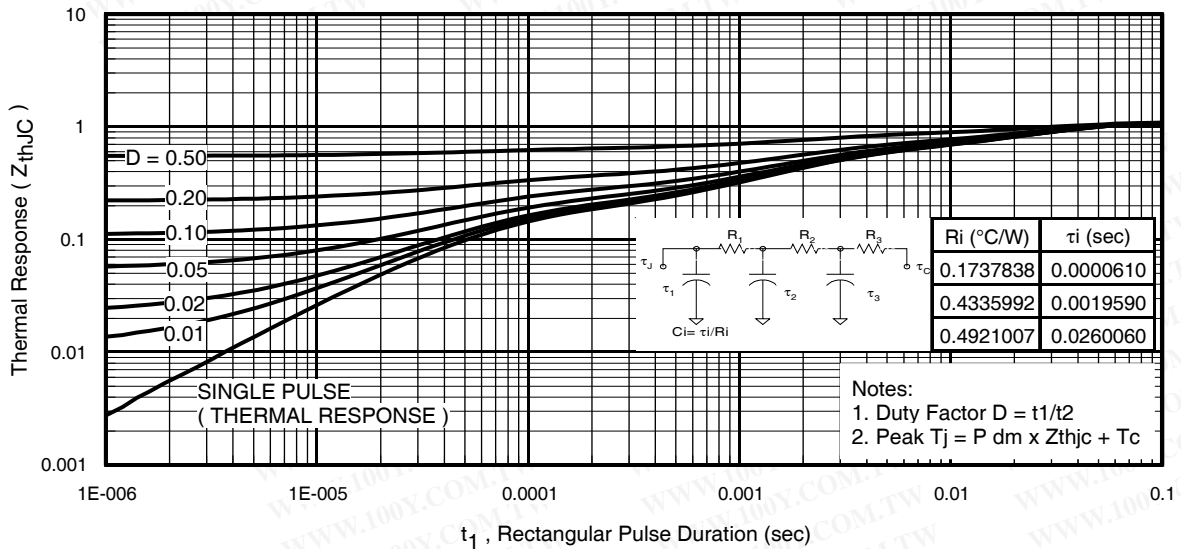

Fig 11. Maximum Effective Transient Thermal Impedance, Junction-to-Case
- ① Repetitive rating; pulse width limited by max. junction temperature. (See fig. 11)
- ② Starting $T_J = 25^\circ\text{C}, L = 0.88mH$